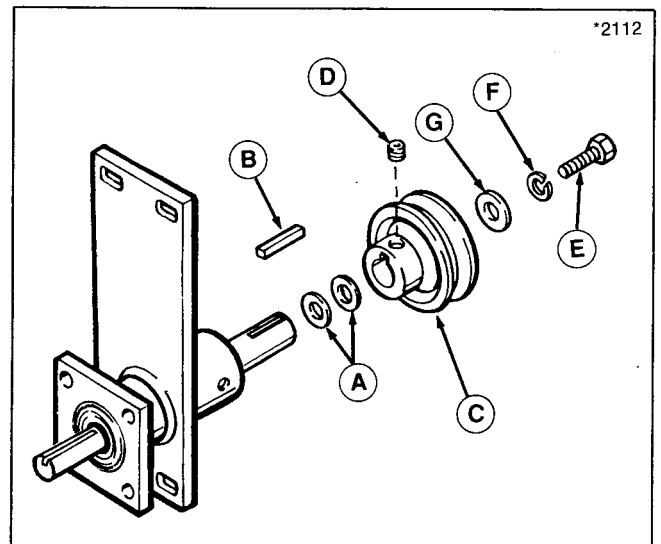

Figure 2.
4. Install two flat washers (A, figure 2, 1-1/2" O.D.) on blower housing input shaft (shaft can be coated with anti-seize lubricant). Install key (B) and pulley (C, hub toward blower housing) onto shaft and secure with setscrew (D). Install 3/8-24 x 1" capscrew (E), lockwasher (F), and flat washer (G, 1-1/4" O.D.) through pulley to threaded blower shaft. Do not tighten setscrew or mounting hardware until after belt alignment is correct (see step 8). Extra washers (A) are provided to shim pulley on shaft for correct belt alignment with PTO shaft pulley.